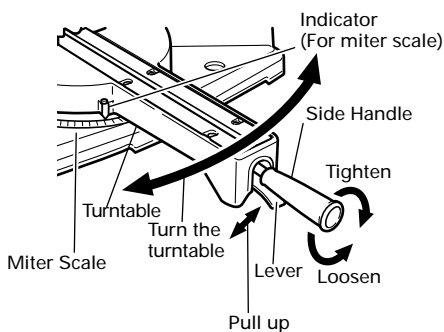
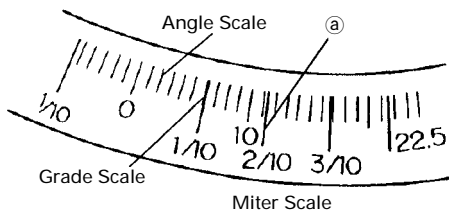

Fig. 30
Fig. 31
- (1) Loosen the side handle and pull up the lever for angle stoppers. Then, adjust the turntable until the indicator aligns with desired setting on the miter scale (Fig. 30).
- (2) Re-tighten the side handle to secure the turntable in the desired position.
- (3) The miter scale (Fig. 31) indicates both the cutting angle on the angle scale and the gradient on the grade scale.
- (4) The gradient, which is the ratio of the height to the base of the triangular section to be removed, may be used for setting the miter scale instead of the cutting angle, if desired (see Fig. 31).
- (5) Therefore, to cut a workpiece at a grade of 2/10, set the indicator to position ② as indicated in Fig. 31.